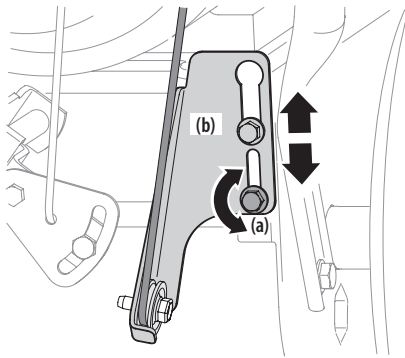

Figure 16
8. Loosen lower hex screw (a) on drive cable bracket (b). See Figure 16.